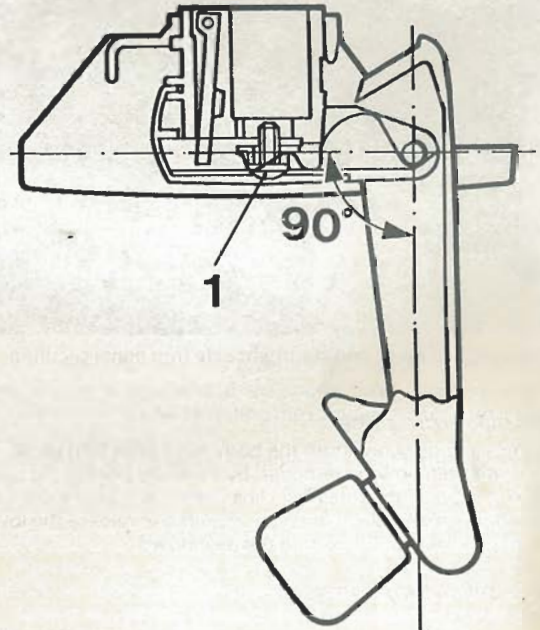

Fig. 10.5 Correct position of sunroof operating handle prior to removal and refitting (Sec 29)
- 5 Fully close the sunroof, then position the handle as shown in Fig. 10.5. This is important to ensure that the handle is not damaged as it is removed.
- 7 Refitting is a reversal of removal, but ensure that the handle is positioned as shown in Fig. 10.5, before refitting and tightening the securing screw.